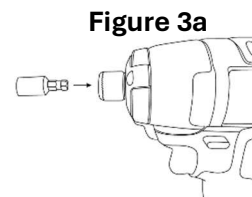

Figure 3a
3. Install the correctly sized hex installation tool from installation kit into driver chuck (**figure 3a**) and drive fastener into pre-drilled hole until firmly seated. Do not overdrive. The tool will disengage the driver bit from the screw head when the appropriate depth and torque is reached.